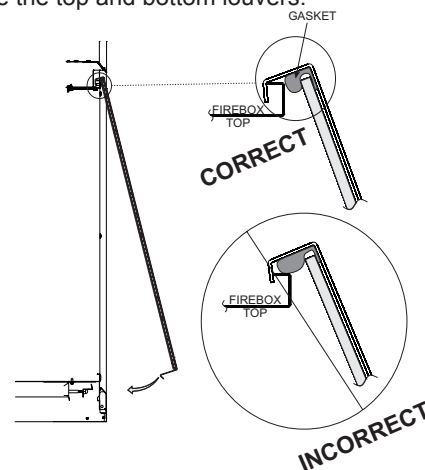

Figure 99
1. When installing the Glass Door assembly, make sure that the door top flange is hooked over the firebox top flange as illustrated in the "Correct" view in **Figure 99**.
**Important: Do not allow the gasket across the top of the door to roll up on top of the firebox flange as shown in "Incorrect" view in Figure 99.**